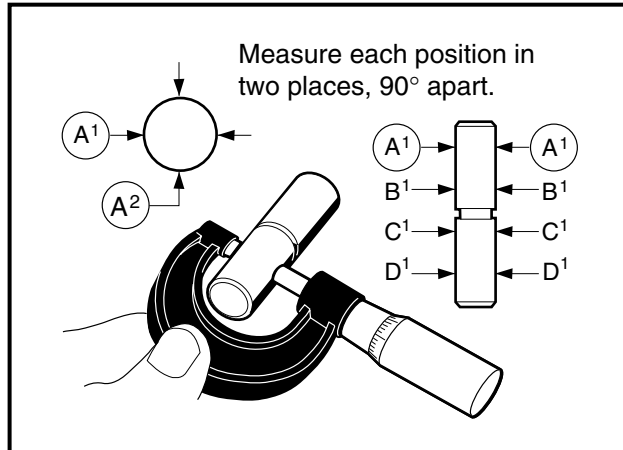

Figure 13-34 Measure Rocker Shaft O.D.
3. Using a micrometer, measure the diameter of the rocker shaft at several points along its length (Figure 13-34, Page 13-19).